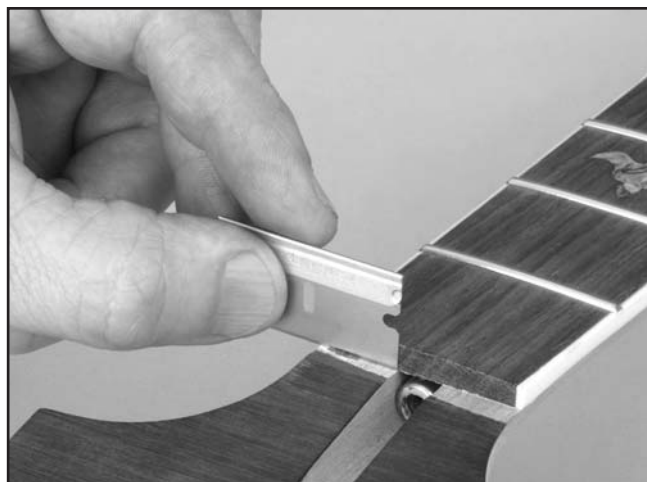

Figure 30. Installing the locking nut.
3. Drill $\frac{3}{8}$ " deep holes through the two holes shown in **Figure 30**.